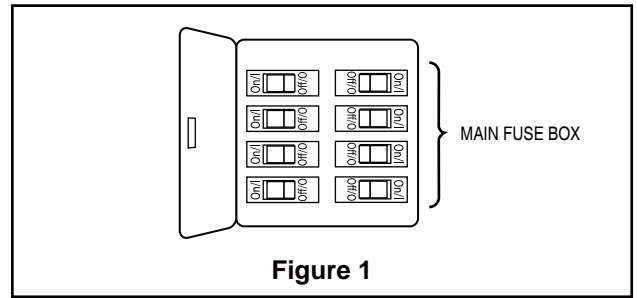

Figure 1
- 1. Restore electrical power to the outlet box by turning the electricity on at the main fuse box. (Figure 1)